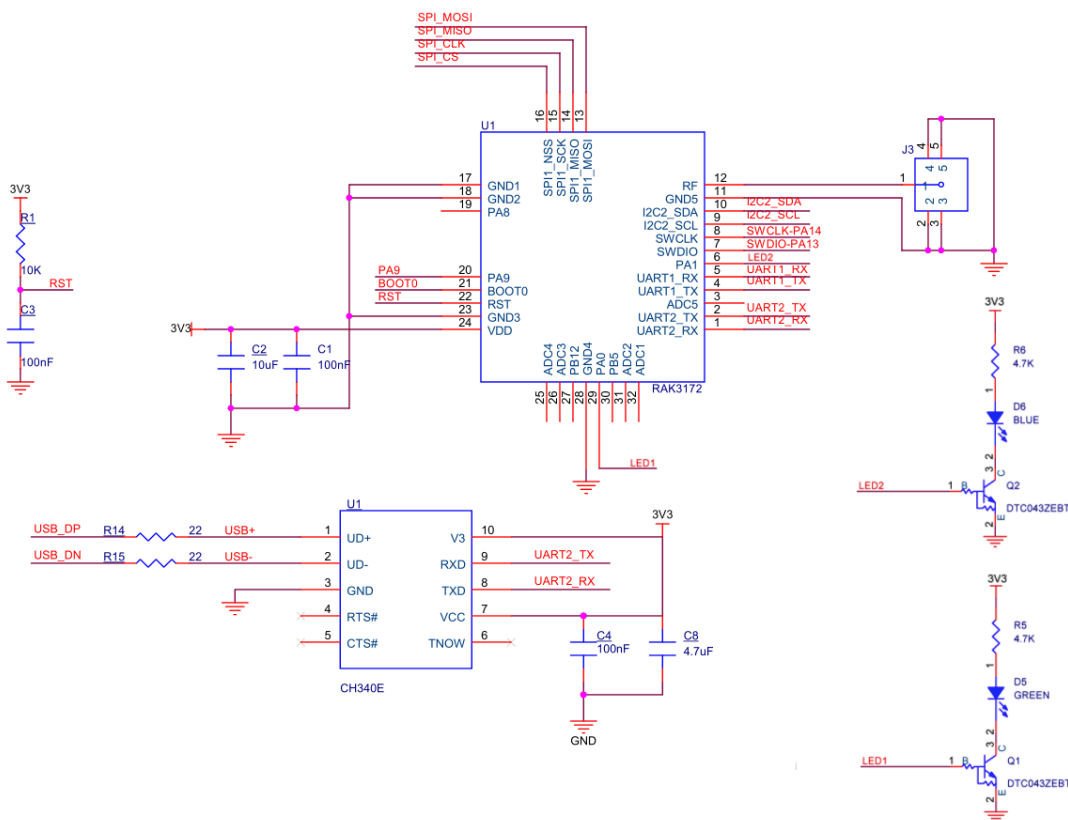

Figure 11: RAK3172 with two LEDs
1. After completing the steps on adding your RAK3172 to the Arduino IDE, you can now try to run a simple program to test your setup. You need to add two LEDs to the bare minimum schematic of the RAK3172 module, as shown in **Figure 11**.